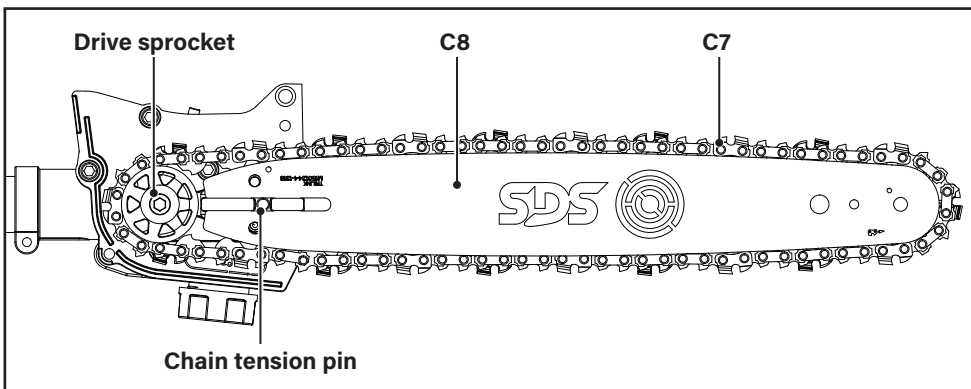

Fig. 4
- Poise the guide bar (C8) near the drive sprocket to fit the rest of the saw chain (C7) around the drive sprocket (Fig. 4).
- With the saw chain (C7) fitted around the drive sprocket and the guide bar (C8), carefully place the guide bar on the chain tension pin (Fig. 4).